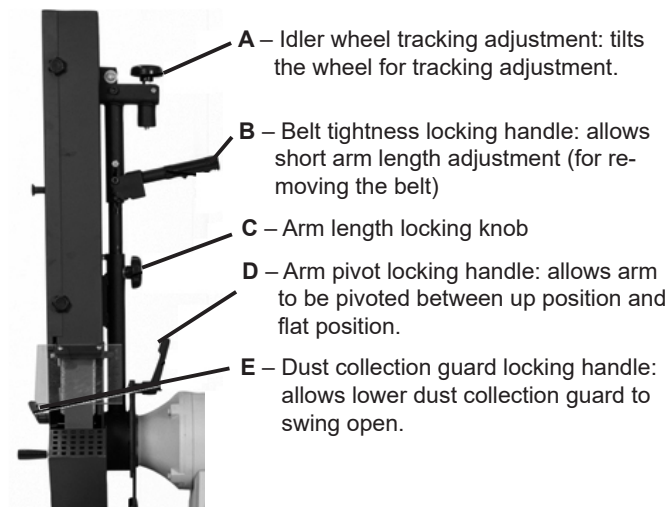

Figure 5. Handle identification
1. Put handle B (Figure 5) into locking position by pulling down. The idler wheel lowers, creating slack on the belt.
6. Unlock Handle B (see Figure 5) to tension the belt.
7. Using your hand to rotate the wheel, adjust the belt tracking using knob A (see Figure 5).